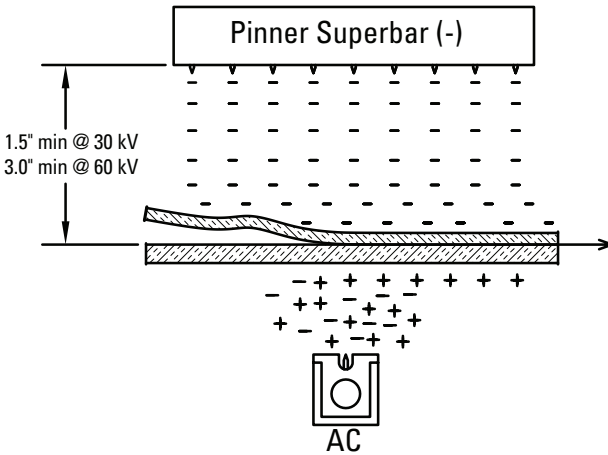

Figure 2
- Charging Bar with Static Neutralizing Bar** – In Figure 2, the charging bar faces an insulative film while a static neutralizing bar faces an insulative sheet of material on the opposite side (glass plastic, light particle board, etc.). As the two materials to be pinned together pass between the bars, the negative ions created by the charging bar charge the film, while the static neutralizing bar attempts to eliminate the apparent charge on the sheet. This deposits a positive charge on the lower sheet. The use of the static neutralizing bar dramatically improves the electrostatic pinning adhesion between the two materials.